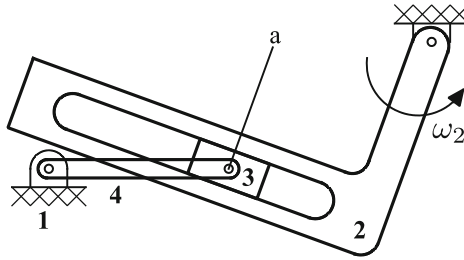

Fig. 2.46 A mechanism with counterclockwise input
- 10. The value of ω_2 in the mechanism in Fig. 2.46 is equal to 10 rad/s and counterclockwise. Find the value of ω_4 .